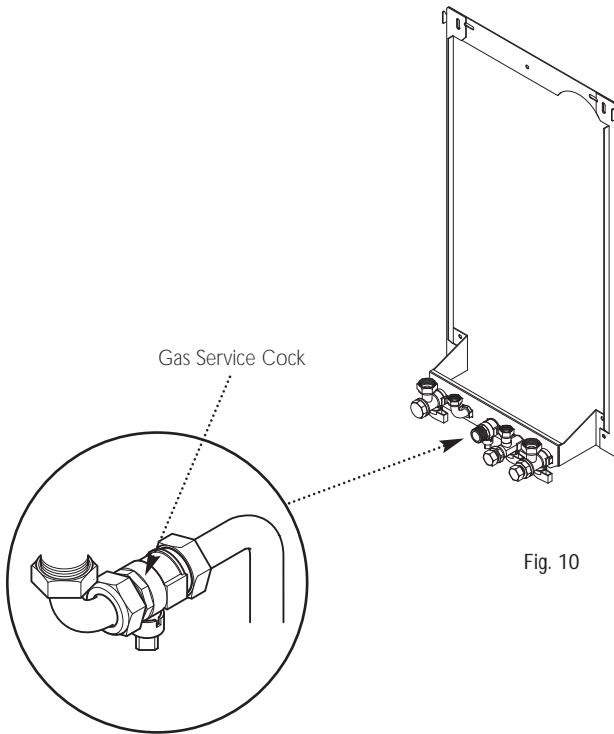

Fig. 10
2. The connection to the appliance is a 22mm copper tail located at the rear of the gas service cock (Fig. 10).